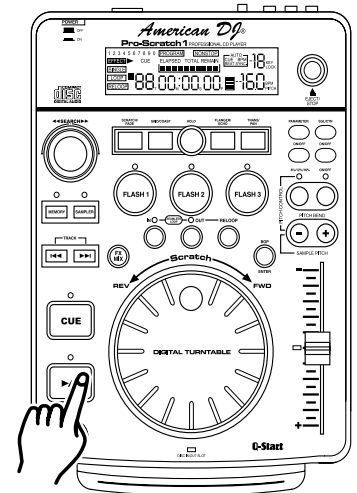
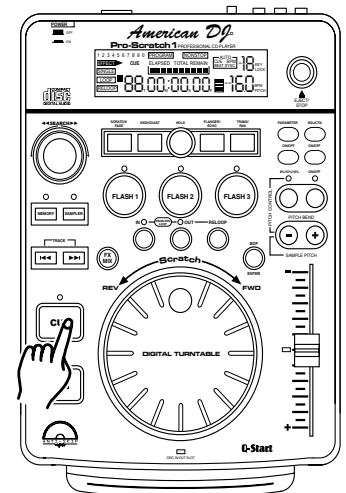
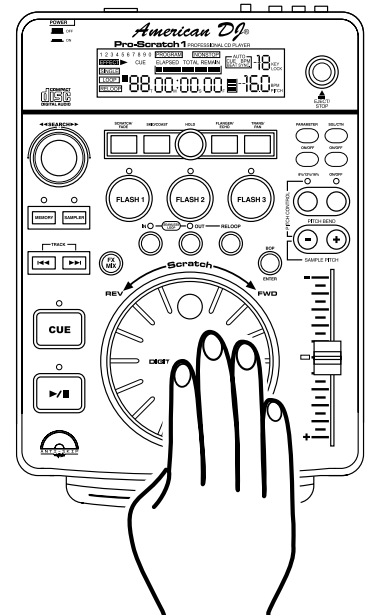

Figure 11
Figure 12
Figure 13
3. STARTING PLAYBACK - Figure 11
5. STOPPING PLAYBACK - Figures 11 & 12
- 1) Press the **PLAY/PAUSE BUTTON (15)** during playback. This will pause playback at the exact same point the **PLAY/PAUSE BUTTON (15)** was pressed.
- 2) Press the **CUE BUTTON (13)** during playback. This will pause playback and return the track to the last set cue point.
6. PAUSING - Figure 11
This feature allows you to scroll through a track frame by frame, allowing you to find and set a starting cue, sample, or loop point. To use the scroll function you must first be in Pause Mode (see section 5) or Cue Mode (see section 7). Once you are in Pause or Cue mode, turn the **JOG WHEEL (14)** to scroll through the track (Figure 13). Turning the wheel in a clockwise direction will advance the frame search and turning the wheel in a counter-clockwise direction rewinds the frame search. When you use the **JOG WHEEL (14)** the monitor (headphone level) function allows you to here what you are scrolling through. Once you reach your desired starting point you can set a cue (starting) point by pressing the **PLAY/PAUSE BUTTON (15)** as in Figure 11. Pressing the **CUE BUTTON (10)** as in Figure 12 will now return you to the point you just set.
- 3) Press the **OUT BUTTON (18)** to set the ending point for your SEAMLESS LOOP (Figure 13). The **IN BUTTON (12)** and **OUT BUTTON (18)** LEDs will begin to flash indicating SEAMLESS LOOP mode has been activated.
EXITING A LOOP - To exit a SEAMLESS LOOP, press the **OUT BUTTON (18)**. The **IN BUTTON (12)** and **OUT BUTTON (18)** LEDs will remain on, but will stop flashing. Music playback will resume normal play (Figure 13). The **IN BUTTON (12)** and **OUT BUTTON (18)** LEDs will remain on to remind you that a loop is stored in memory.